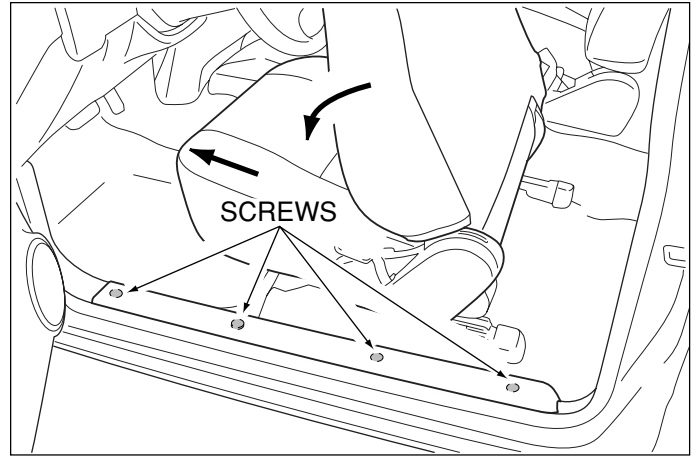

Fig. D1
- i. Move seat forward and tilt the back of the seat forward. (Fig. D1)
- ➡ ii. Remove the 4 screws from the scuff plate and remove scuff plate. (Fig. D1)